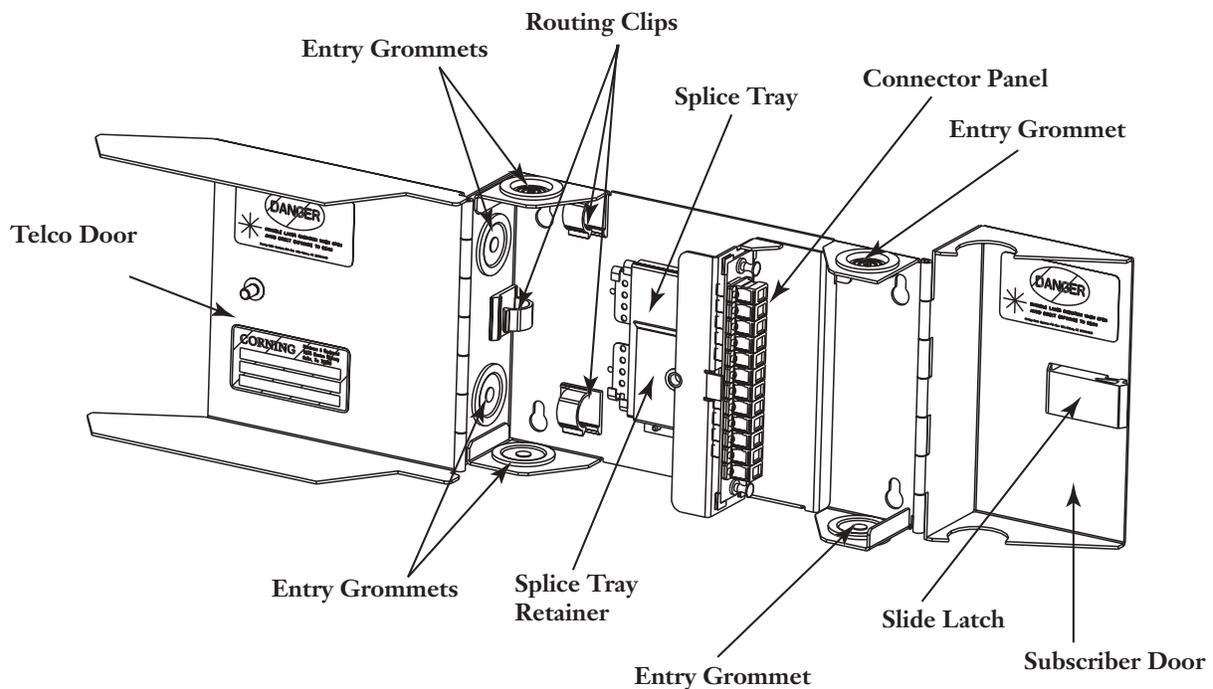

Figure 2 — Components
5.1 The major components are illustrated in Figure 2. Cable can enter from the top, bottom, or left side of the unit.
8.4 Make sure all fibers are captured under the flange of the splice tray and attach the cover. Slide the splice tray under the splice tray retainer (Figure 2).